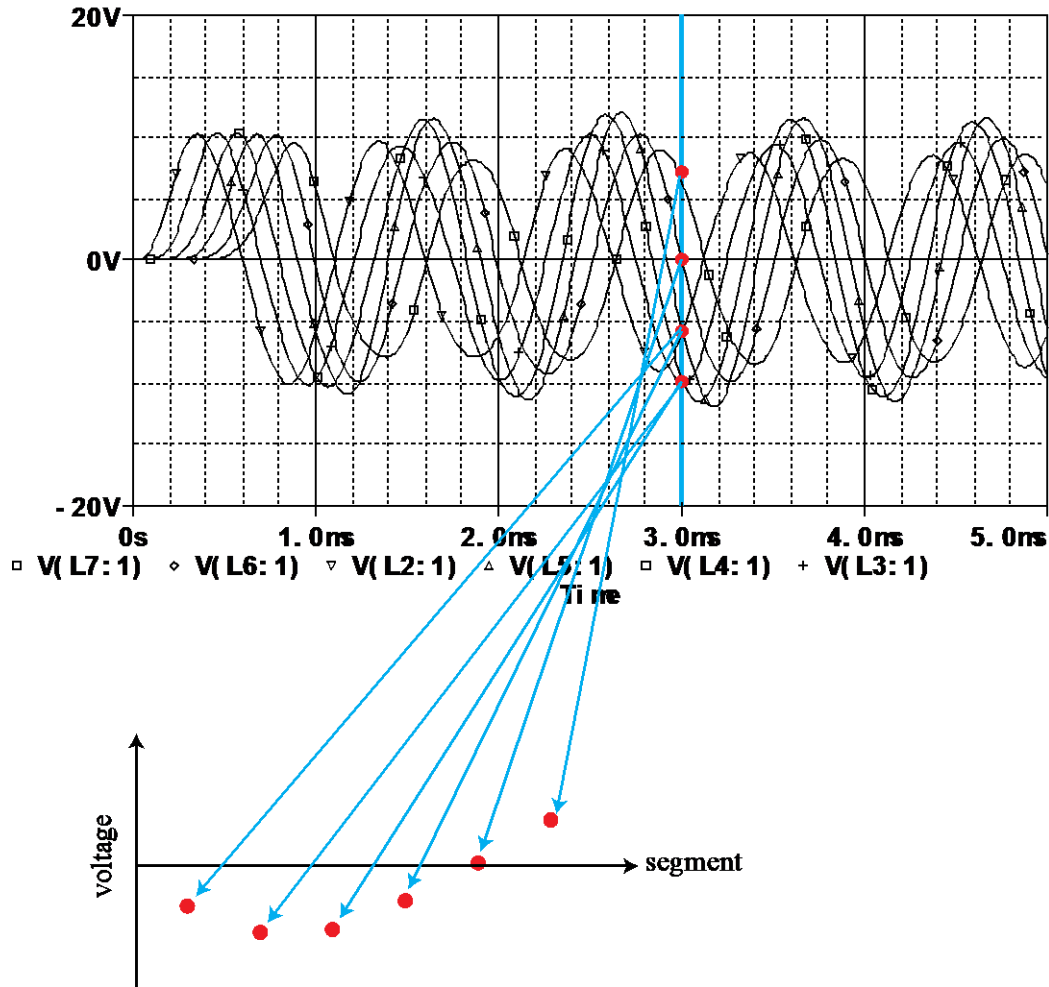

Figure 3
c. To find the wavelength you need to place a voltage monitor between each segment and then measure the voltage on each marker at the same time. (see Figure 3)